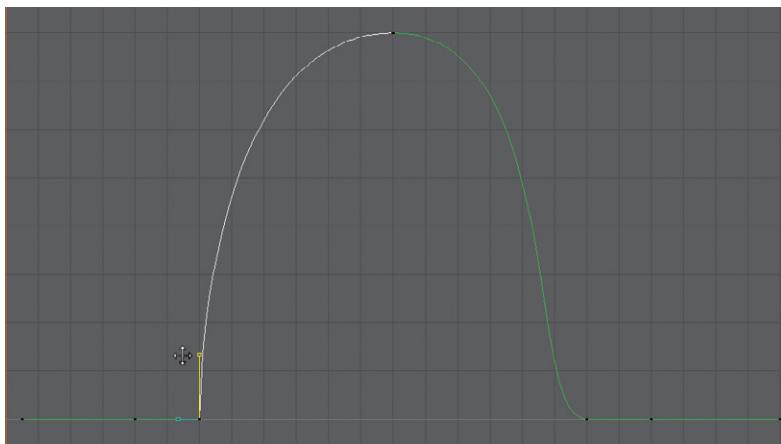

FIG 9.15 Creating a quick explosion off the ground by breaking the Translate Y tangent and pointing the tangent straight up.
Step 20: Explode off the ground. Do this by breaking the tangents at frame 12. To make this happen, marquee-select the key at frame 12 (all this is done within the Graph Editor). Then, choose Keys > Break Tangents. Marquee-select the handle on the right and middle-mouse drag it straight up (Fig. 9.15).